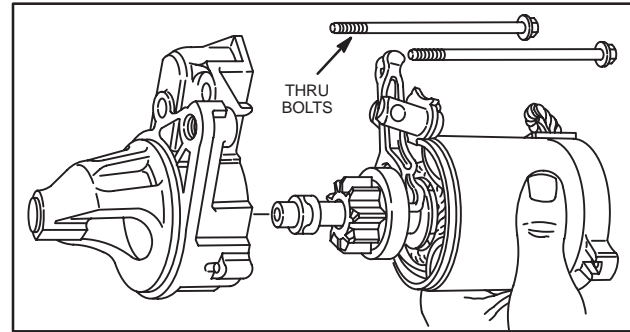

Fig. 52 – Removing Drive Housing
4. While holding starter housing, lift off drive end housing with drive lever, Fig. 52.